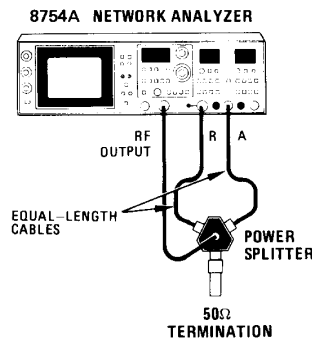

Figure 4-23. Polar Display Accuracy Test Setup
1. Connect equipment as shown in Figure 4-23.